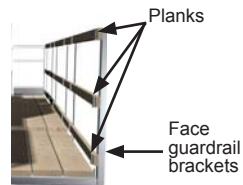

Fig. 8.11
- 4- Insert planks in the hooks of each face guardrail bracket to cover the hazardous opening (fig. 8.11). Secure the planks in place with nails or screws.